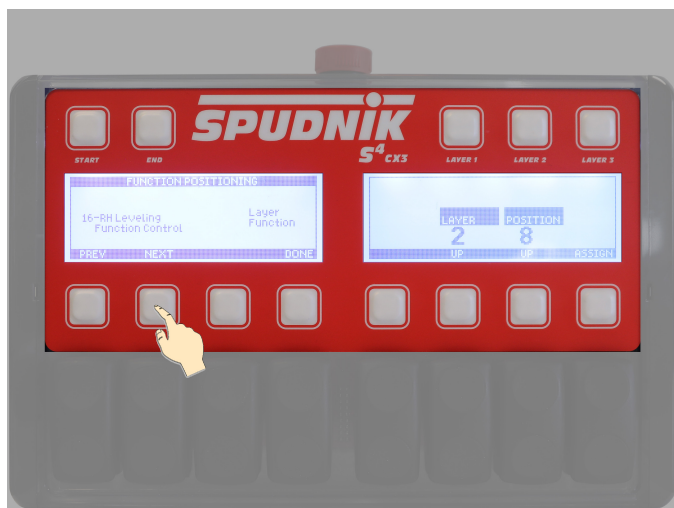

Figure 18
5. Press soft key 7 (*UP*) to scroll to *POSITION* variable 4.
6. To save the location changes, press soft key 8 (*ASSIGN*). Alternatively, if you do not wish to save the location change, go to step 7 without pressing the *ASSIGN* key.
7. Press soft key 2 (*NEXT*) to scroll to the next function. (See Figure 18)